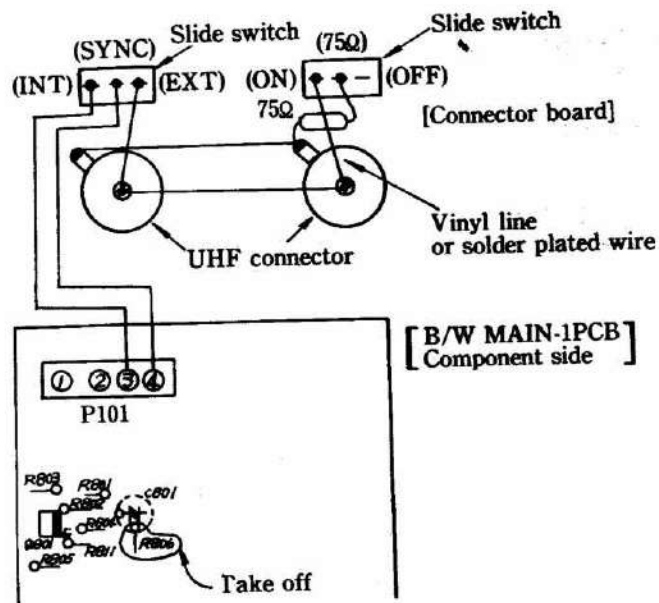

Fig. 9
- Make connection as illustrated in Fig. 9.